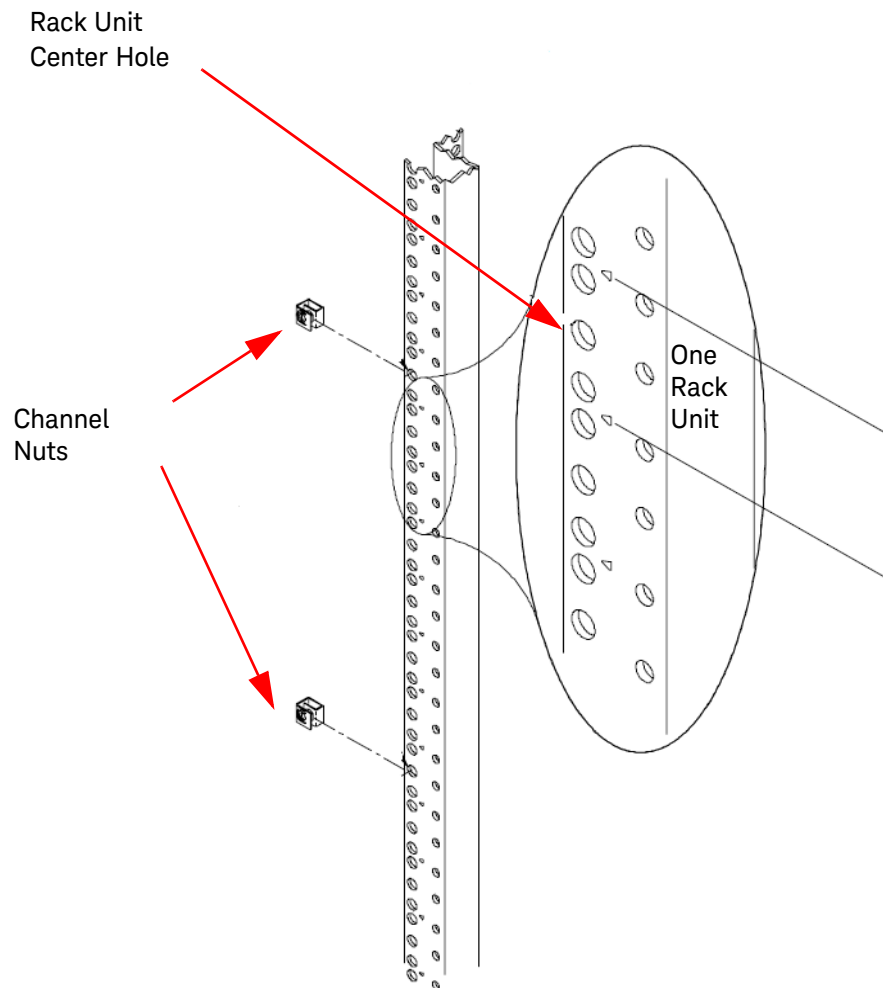
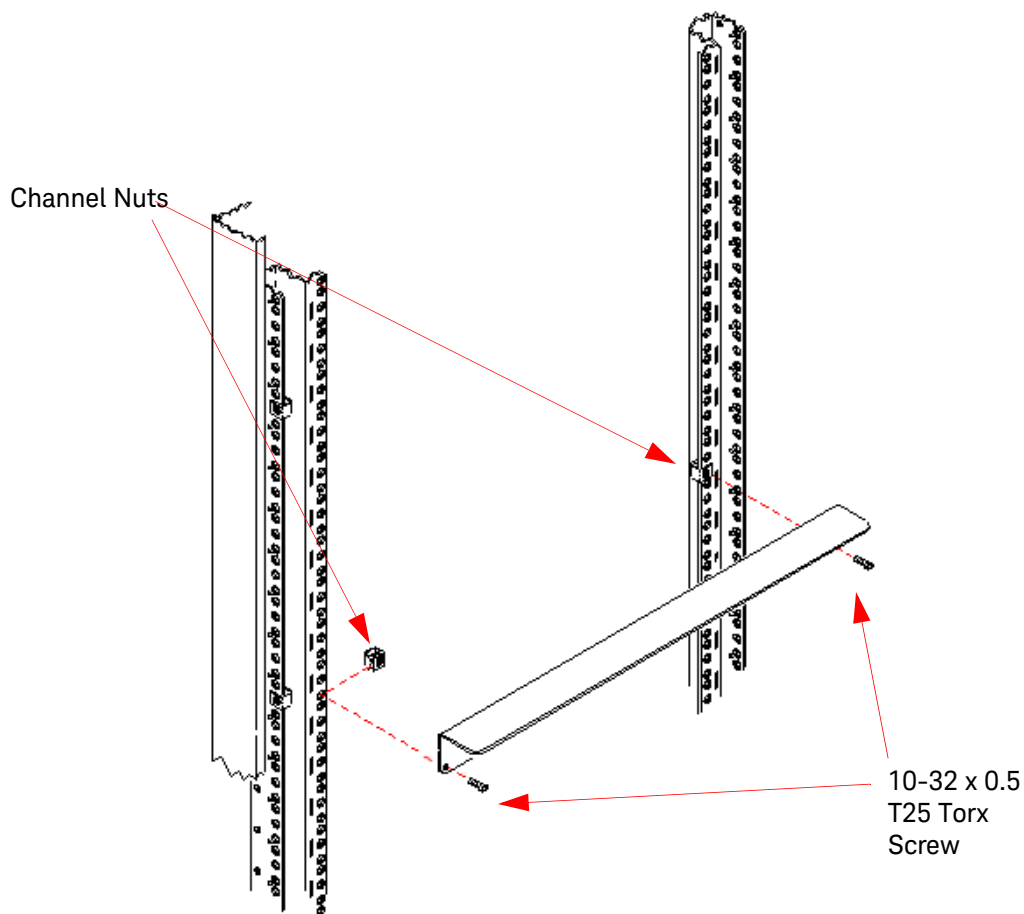
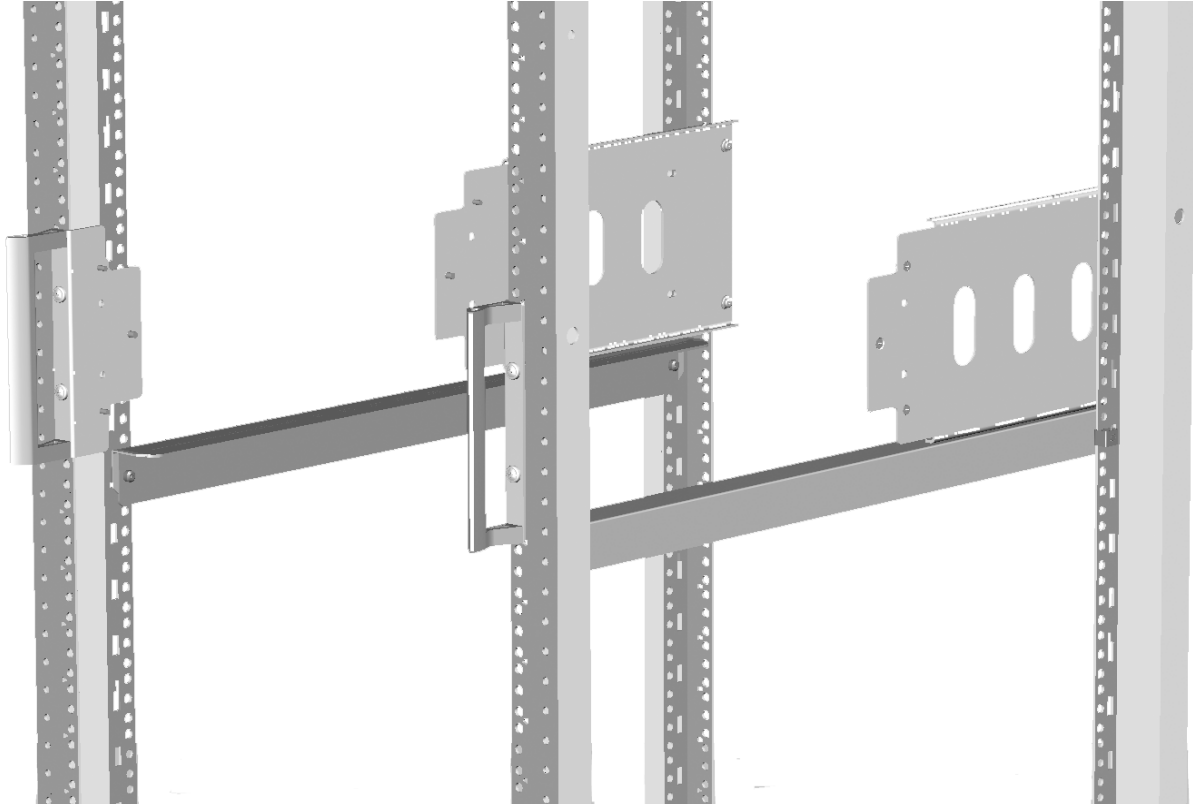

Figure 3 Center Holes of Rack, Attaching Channel Nuts
Figure 5 Attaching the Support Rails to the Rack
Figure 6 Y1215B Flush Mount and Y1217A Rail Kits installed on a rack
- 6** Using the front and rear brackets as templates, position the brackets on the rack's vertical columns where the chassis is to be mounted. Do this for both the front and rear brackets on both sides of the rack. Align the bracket holes over the "center" holes of the rack units. Slide channel nuts over the rack holes to be used by the rack mount flanges. See Figure 3 below and Figure 6 on page 8.
- 8** If you are using the Y1217A Rack Mount Rail Kit (this may be required for non-Keysight racks), position the rails on the rack's vertical columns where the chassis is to be mounted. Remember that the rails must be installed **upside down** to not interfere with the M9018A chassis cooling vents. Align the adapter holes over the "center" holes of the rack units. See Figure 5 and Figure 6.